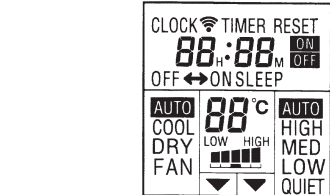

Fig. 8
⑳ Remote Control Unit Display (Fig. 8)